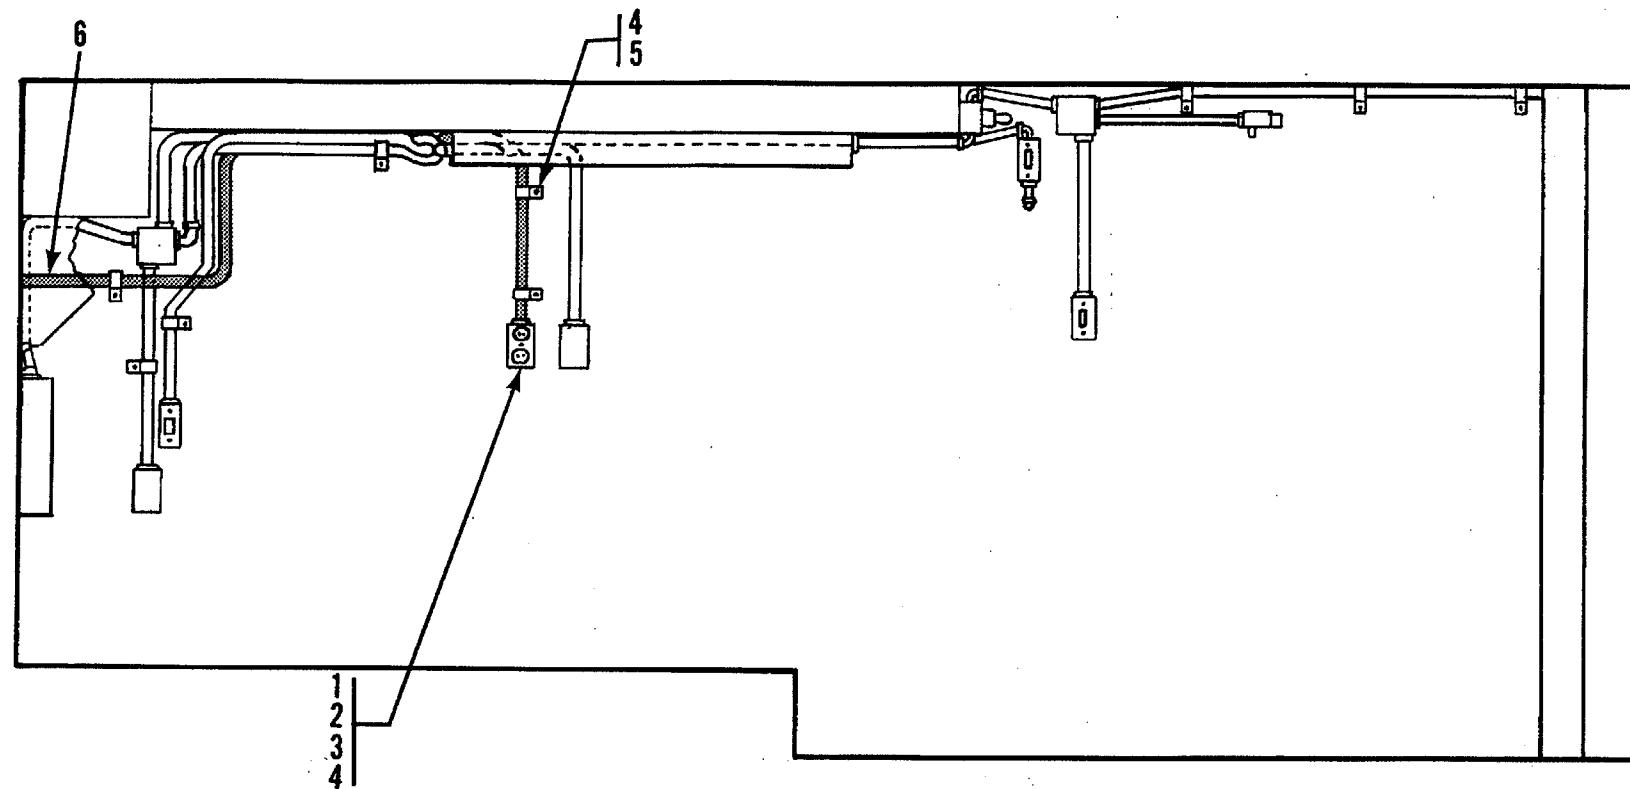

Figure 1 Curbside Van Interior.
**2-1. Roadside, Curbside, and Front Wiring and Roadside, and Curbside Receptacles Removal and Installation.** (Refer to figures 1, 2, 3 and 4).